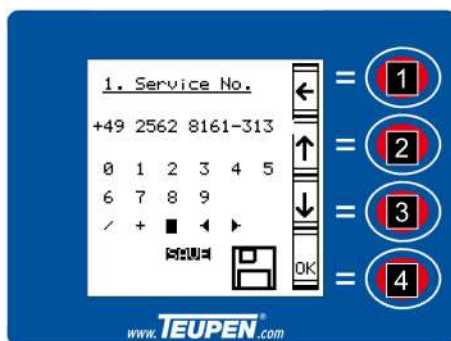

Fig. 72: Saving the service number
4. ➤ Using the [function keys] (Fig. 72/2 and 3) set the cursor to "save".
5. ➤ Using the [function key] (Fig. 72/4) confirm the setting.
6. ➤ Using the [function key] (Fig. 72/1) return to the [setting] menu.